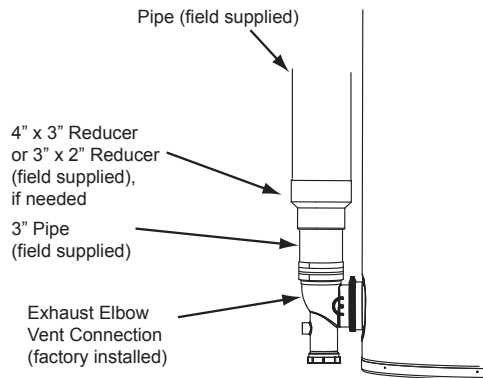

Figure 17. Vent (Exhaust) Connection
11. If installing two- or four-inch pipe, transition to three-inch pipe at the exhaust elbow on the water heater as shown in **Figure 17** (page 24). The field installed three-inch pipe between the exhaust elbow and the reducer coupling should be 18 inches (45 cm) or less in length.
12. If installing two- or four-inch vent pipe, transition to three-inch pipe at the exhaust elbow on the water heater as shown in **Figure 17** (page 24). The field installed three-inch pipe between the exhaust elbow and the reducer coupling should be 18 inches (45 cm) or less in length.